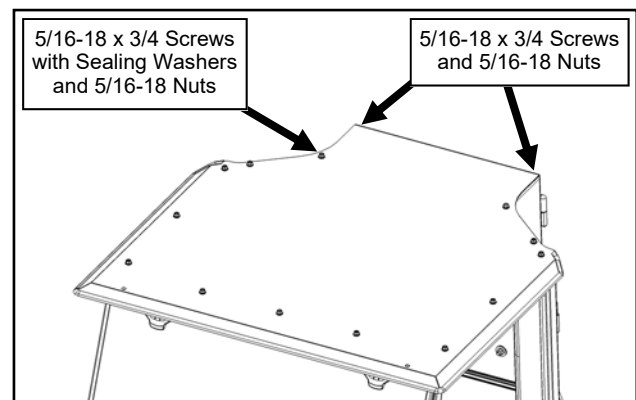

Fig. 12.2 (Install Roof)
- 12.2** With assistance, set the roof on top of the Door Headers, Windshield Support, and Rear Legs. See Figure 12.2. Loosely secure with sealing washers on the thirteen (13) screws through the top of the roof, and no sealing washers on the two (2) screws through the back of the Rear Legs.